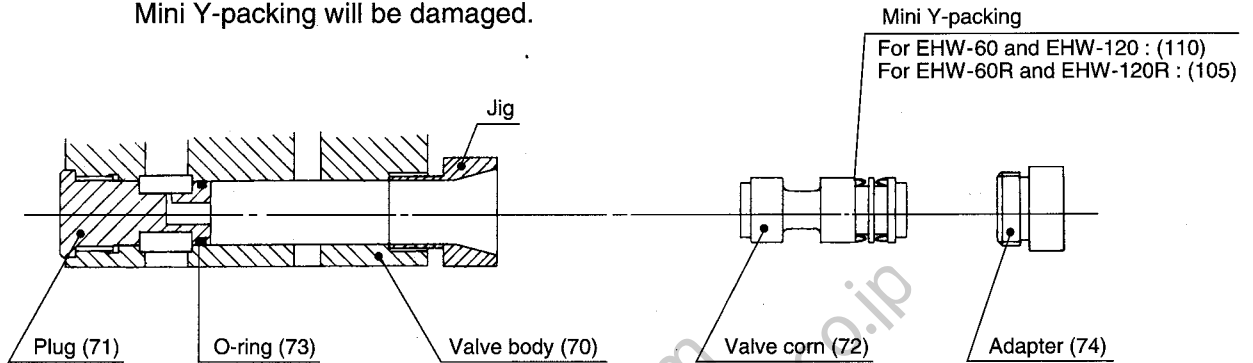

Fig. 12
Attach the jig to Valve body (70), then insert Valve cone (72) into Valve body (70) through the jig and press by hand until Valve cone (72) touches Plug (71). (See Fig. 12.)
**NOTE :** Before installing Valve cone (72), install Plug (71). If Valve cone (72) is inserted without the jig or pressed by Adapter (74), Mini Y-packing will be damaged.